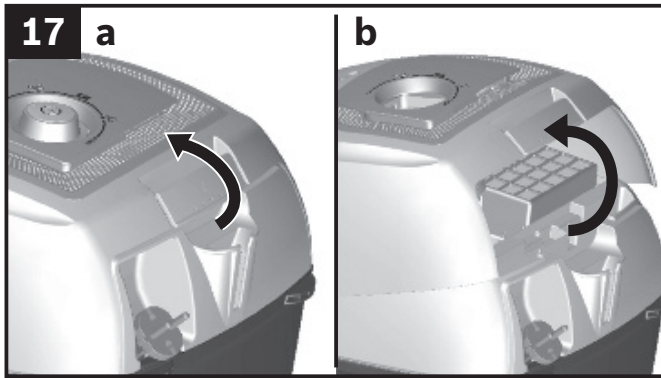

Figure 17 Opening the lid
Open the dust bag compartment lid. **Figure 17**
- Open the dust bag compartment lid. **Figure 17**